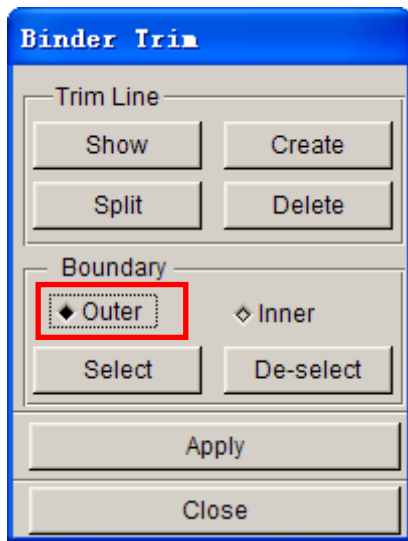
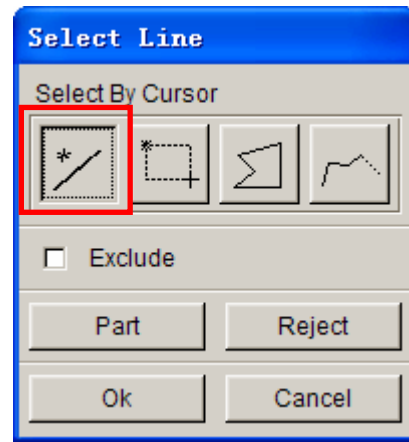

Figure 46 Binder Trim dialog box
Figure 47 Select Line dialog box
5. Click **Select** button in the **Binder Trim** dialog box, as illustrated in Figure 46. The **Select Line** dialog box illustrated in Figure 47 is displayed.